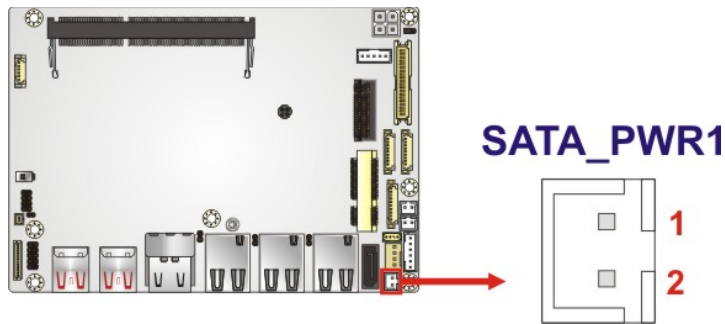

Figure 3-19: SATA Power Connector Location
- CN Location:** See **Figure 3-19**